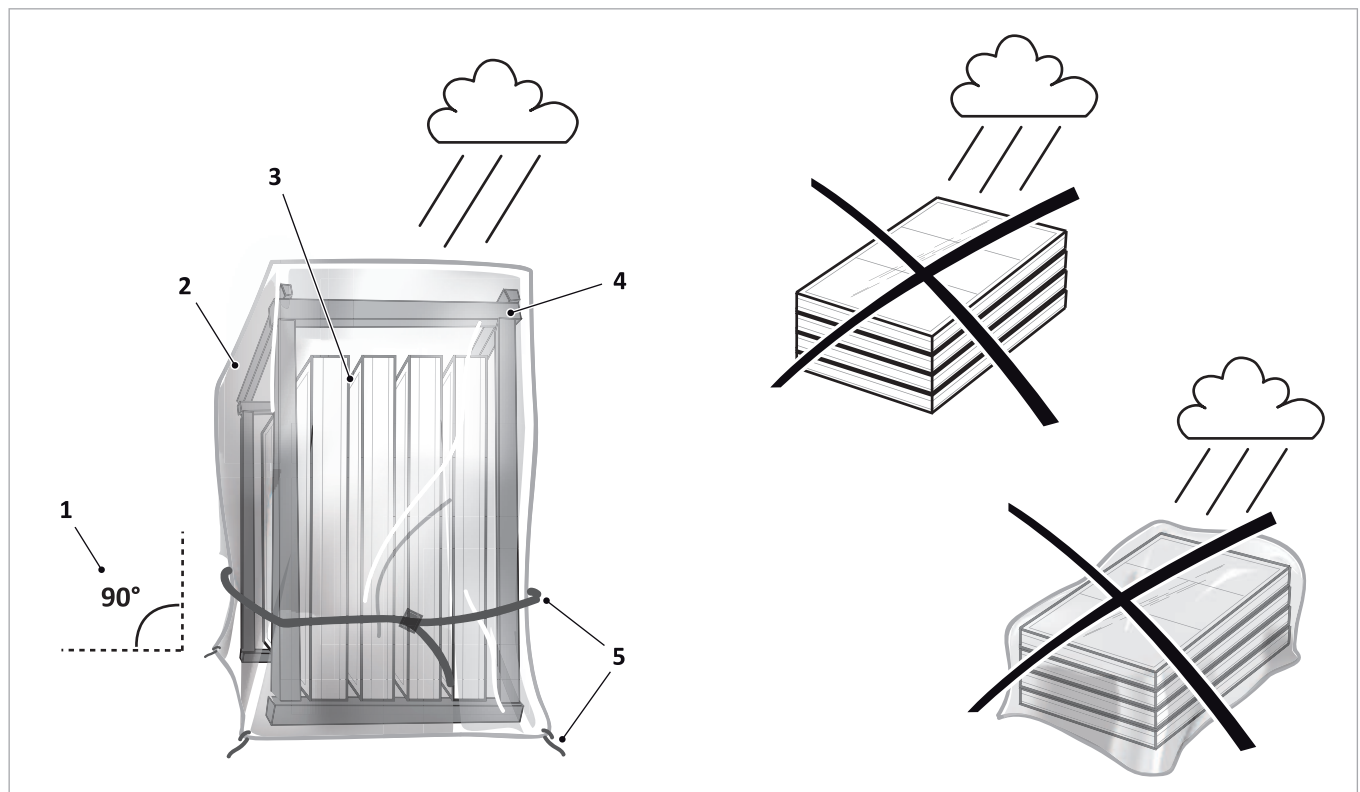

Fig. 1: Storage outdoors, max. 14 days
- Store collectors on the wooden transport guard provided or standing on squared timber with intermediate layers (see ➔ fig. 1, page 7).